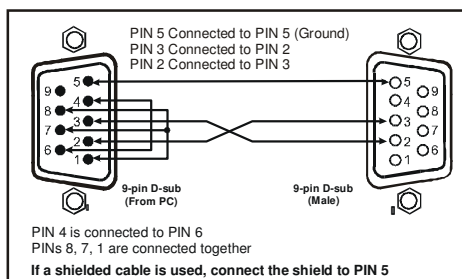

Figure 5: Connecting a PC without using a Null-modem Adapter
- Connect the RS-232 9-pin D-sub port on your PC to the RS-232 9-pin D-sub rear panel port on the **VS-48HDxl** unit, as Figure 5 illustrates